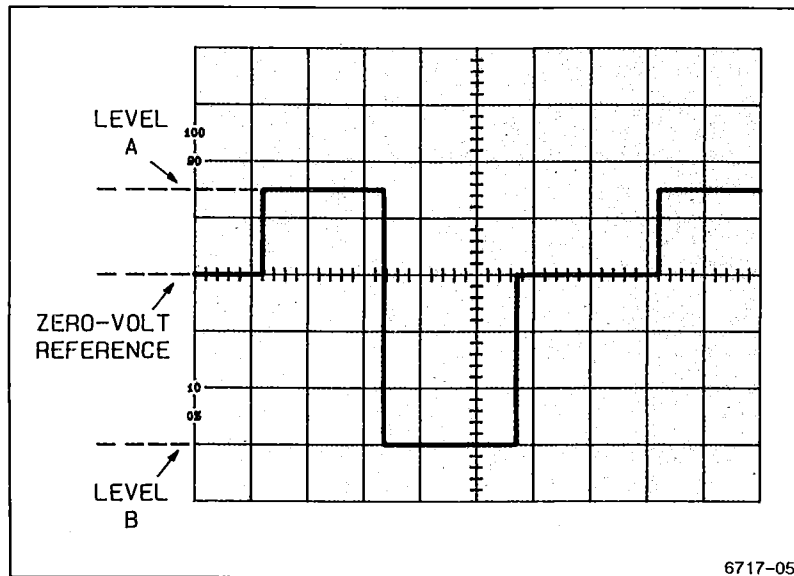

Figure 3-2. Instantaneous voltage measurement.
8. Measure the divisions of vertical deflection between the ground reference line and the point on the waveform at which the level is to be determined (see Figure 3-2).
EXAMPLE. In Figure 3-2, the zero-volt reference is as shown at the center vertical graticule line, a 10X attenuation probe is being used, and VOLTS/DIV is set to 2 V (10X PROBE). Two unknown voltage levels, A and B, are marked on the waveform. A is 1.5 divisions above the zero-volt reference level, and B is three divisions below the zero-volt reference level. What are the respective voltages of levels A and B?